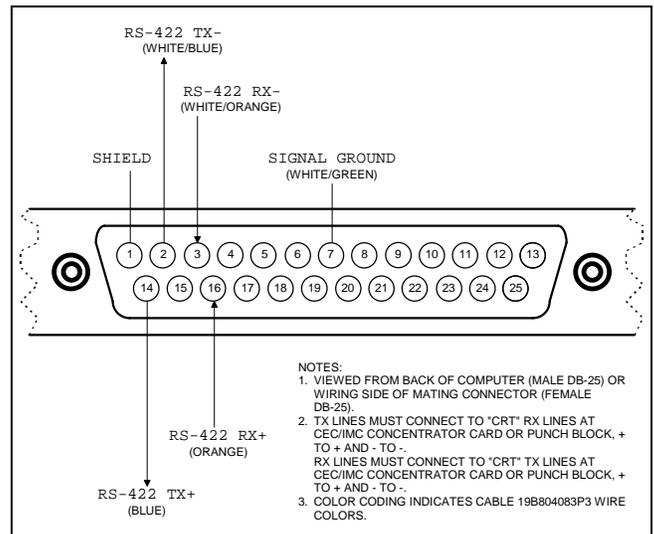

Figure 4 – Plug-In RS-422 Board DB-25 Connector Pin-Out (B&B Electronics 3PXOCC1A Board)
- ☐ If cable 19B802083P3 is *not* used but RS-422 hook-ups are required, see Figures 4 (or 5) and 7A and/or the manufacturer's documentation for COM port connector pin-out details. Fabricate a cable as required and then use it to interconnect the C3 Maestro's RS-422 control data COM port to the appropriate CEC/IMC Data Concentrator Card as required. Shielded cabling is recommended. Per RS-422 specifications, cable length should be limited to 4000 feet (1219 meters) or less.